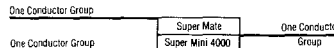

Fig. 16—Pluggable Bridge Connection
a. This combination makes a three conductor group connection (bridged) pluggable one way, the body bottom of the Super Mate Module to the body top of the Super Mini Module. See Figure 16.